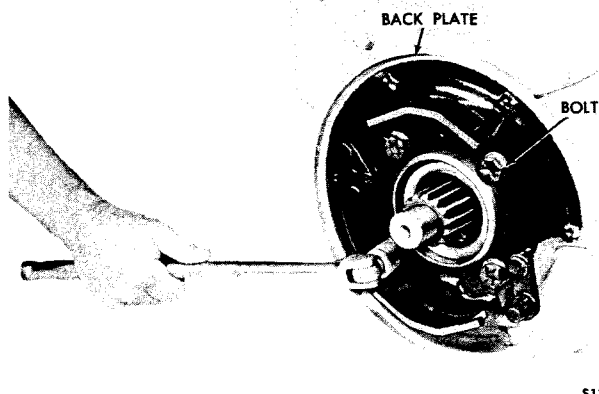

Fig. 5-5. Removing brake back plate bolts (-1 model)
(2) Remove the nuts and washers which retain the output flanges. On later models, remove the sealing from the output shaft. Using a suitable puller, remove the flanges (refer to para 4-8a).
(3) Remove four self-locking bolts which retain the brake back plate (fig. 5-5). Remove the back plate assembly.
(4) Remove two springs 5 (B, foldout 14, two shoe assemblies 4, lever 6, and roller 3.
(5) On remote-mount installations, the input flange also is removed as outlined in (2), above, except a sealing is not used at this location. If the input flange is retained by bolts, refer to e(2) and (3), below.